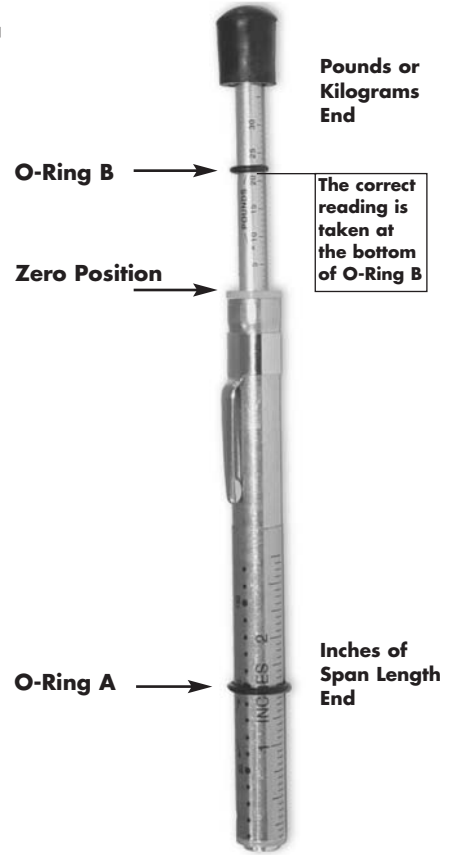

Figure 1
- Tool Preparation (figure 1)
IMPORTANT - The correct reading is taken at the bottom edge of O-Ring B. (figure 1)